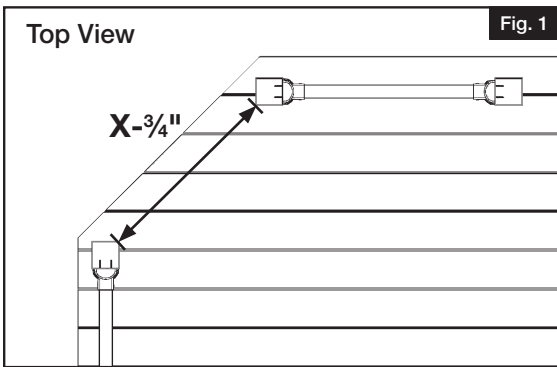

Fig. 1
- a. Measure distance between post from inside corners (Fig. 1) that will be using the pre-molded adapter and next post. Subtract 3/4" from that distance and that will be the length you will need to cut your top and bottom rails (Fig. 1).